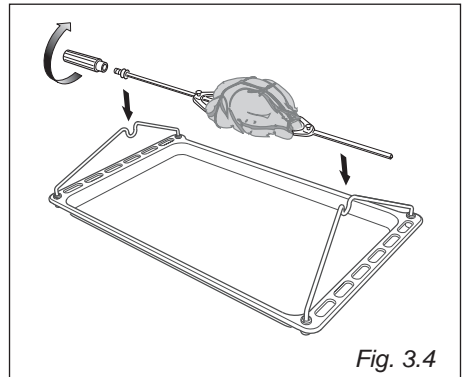

Fig. 3.4
3. **Position the skewer on the support** (fig. 3.4).